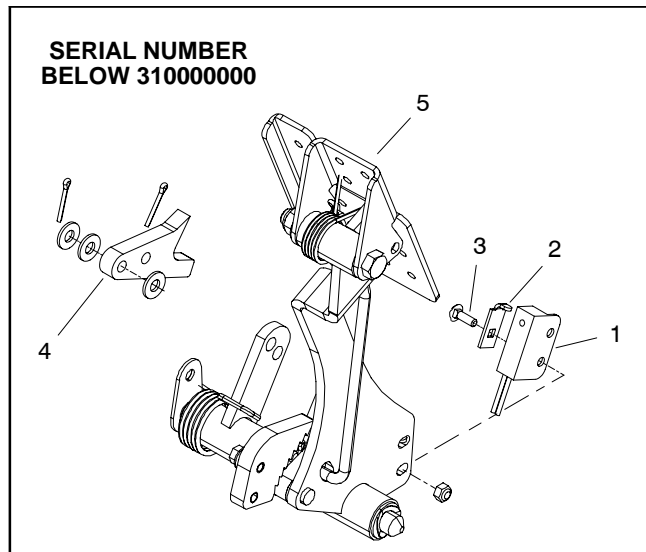

Figure 35
2. On machines with serial numbers below 310000000 (Fig. 35), test parking brake switch as follows: